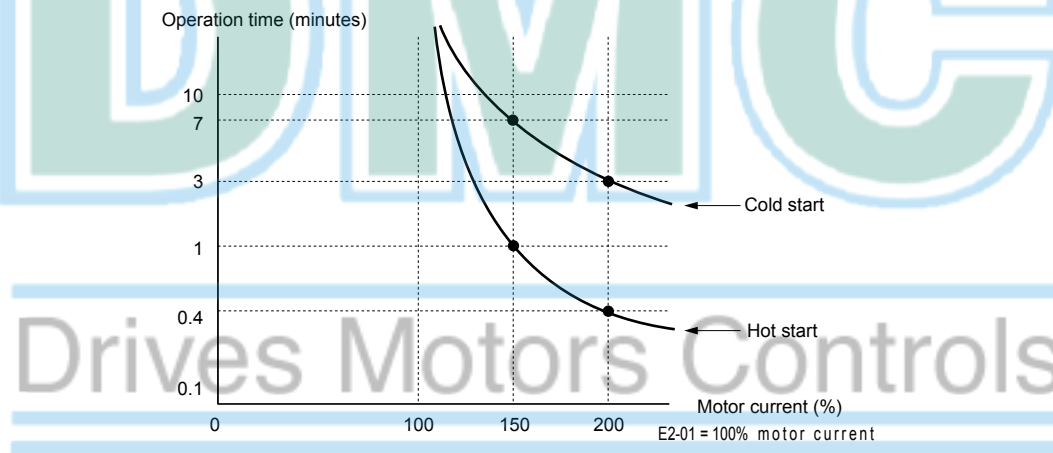

Figure 5.34 Motor Protection Operation Time
- **Figure 5.34** shows an example of the electrothermal protection operation time using a general-purpose motor operating at 60 Hz with L1-02 set to one minute.